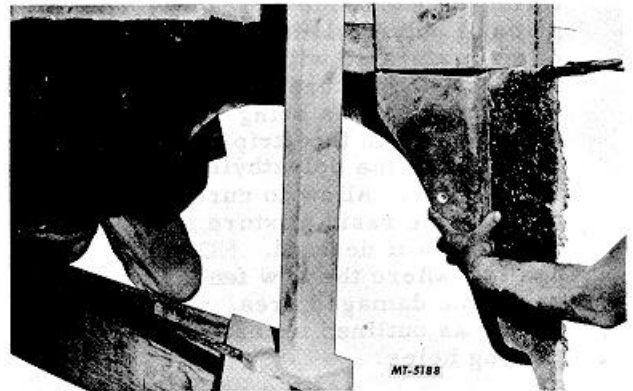

Fig. 10 Reinforcement Service Fender Rear.
6. After clamping fender to hood on D-400 series check position of lower corner of inside rear reinforcement channel. In some cases, the rear reinforcement channel corner will not line up with inside hood channel. See Fig. 10. This is due to slight variations of hoods. To position correctly, cut off reinforcement for reinstallation after fender has been attached.